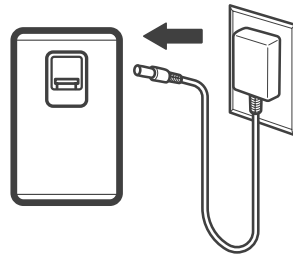

Figure 2.4
2. Insert the charger into the charging port on the battery. **[Figure 2.4]**